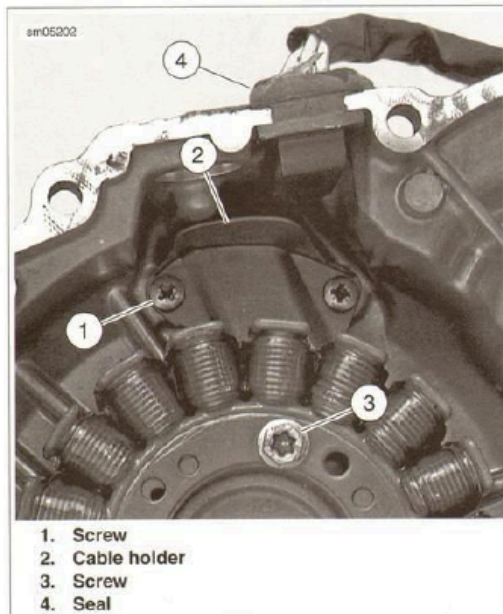

Figure 7-35. Stator
2. See Figure 7-35. Remove the two screws (1) securing the cable holder (2).